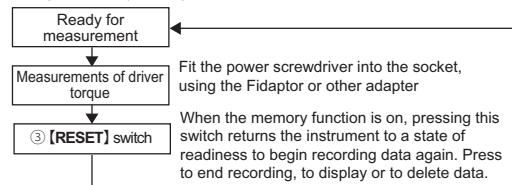

Fig. 2 Displaying recorded data
2. Fig. 2 shows how to display data stored in the memory.